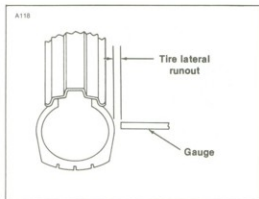

Figure 2-38. Checking Tire Lateral Runout
1. Check runout by turning wheel on axle, measuring amount of sideways displacement from a fixed point near the tire (see Figure 2-38).